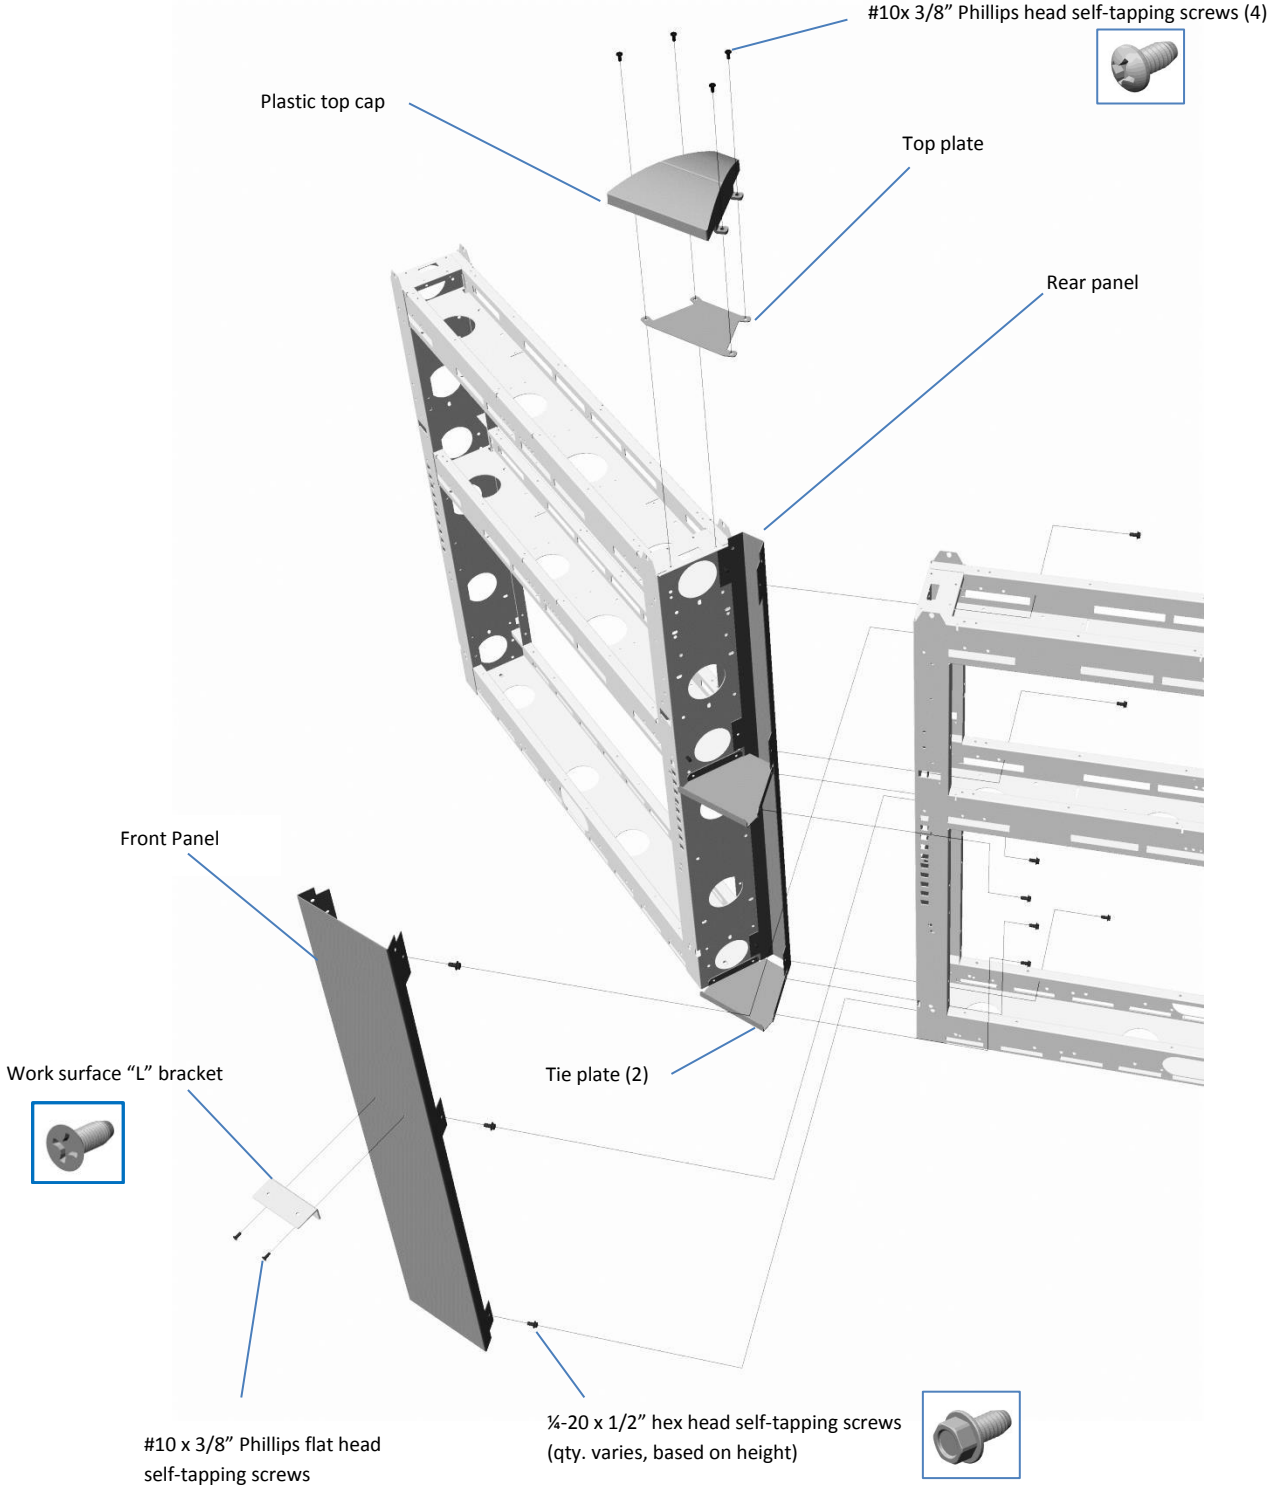

Figure 10
2-Core Stationary Convex Wedge Connectors: Used with fixed height work surfaces. The work surface is outside of the angle (convex side). The outer vertical (narrow) panel will be full height. The inner (wide) vertical panel will be full height and have (2) mounting holes for a work surface “L” bracket. Available angles: 15°, 30°, 45°, 60°. See figure 10.